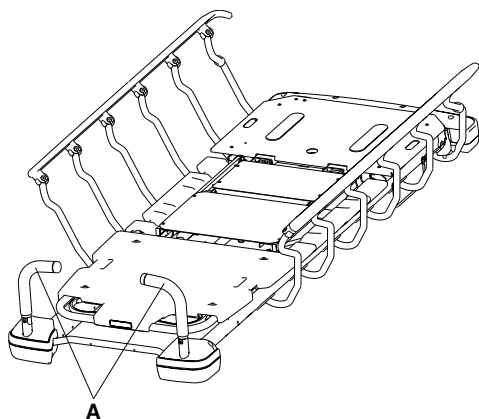

Figure 12 – Positioning the head end push handles
1. Pivot the push handles (A) up from the head end of the product (Figure 12).